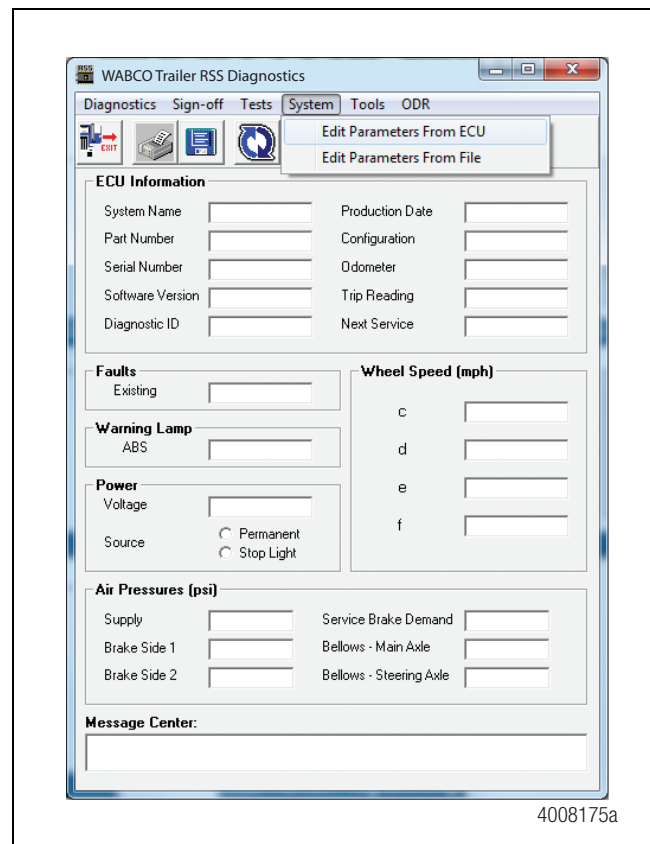

Figure 6
1. Activate the Roll Stability portion of TOOLBOX™ Software. From the top menu bar, go to the **System** pull-down menu and select **Edit Parameters from ECU**. Figure 6.